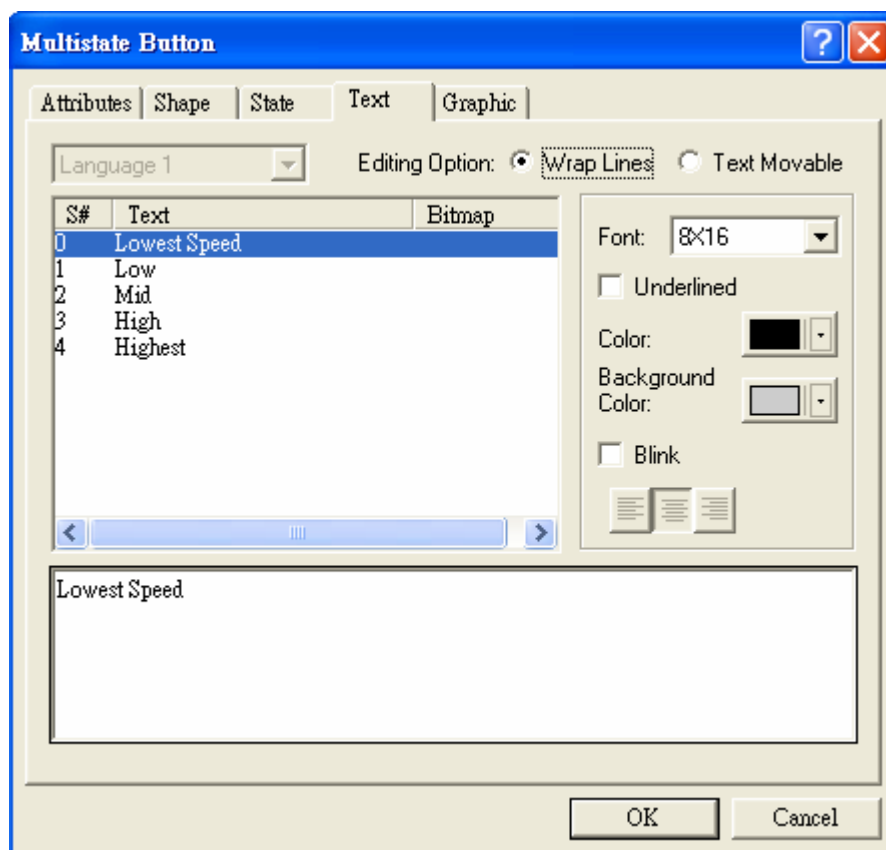

Figure 102. The [Text] Tab
4. [Text] Tab: Specify [Font],[Underlined],[Color],[Bkg. Color] and [Blink] as Figure 102.